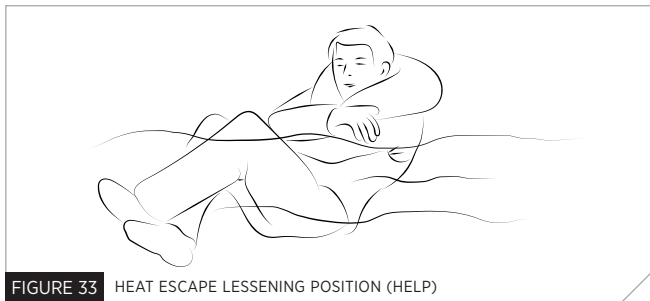

FIGURE 33 HEAT ESCAPE LESSENING POSITION (HELP)
3. Use the standard H.E.L.P. position when wearing a PFD, drawing the legs up to a seated position, because doing so will help you conserve body heat (Fig. 33).